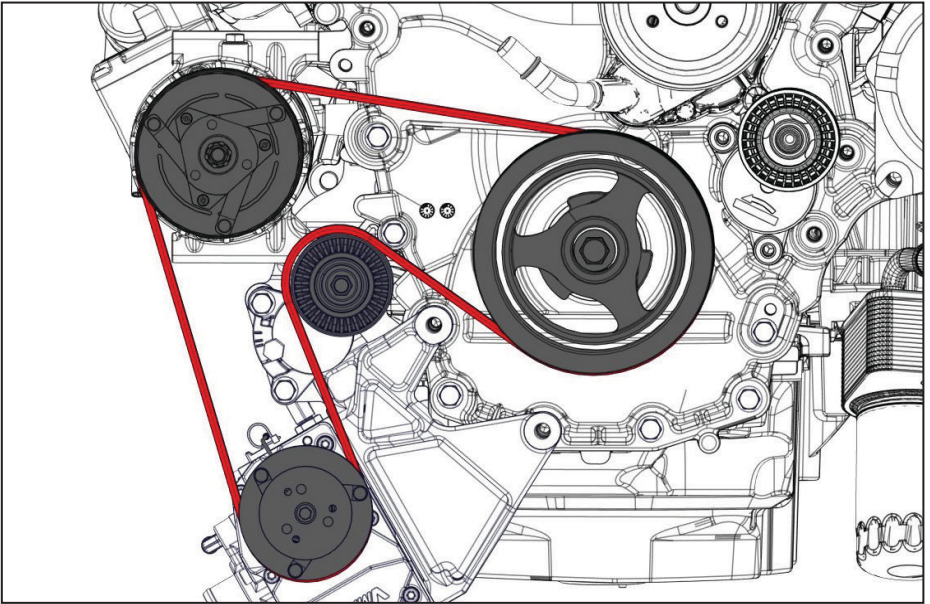

Figure 17 — Route VMAC belt
- Install and tension the supplied 4 rib VMAC Compressor belt, ensuring that it is centered on the compressor clutch (Figure 17).